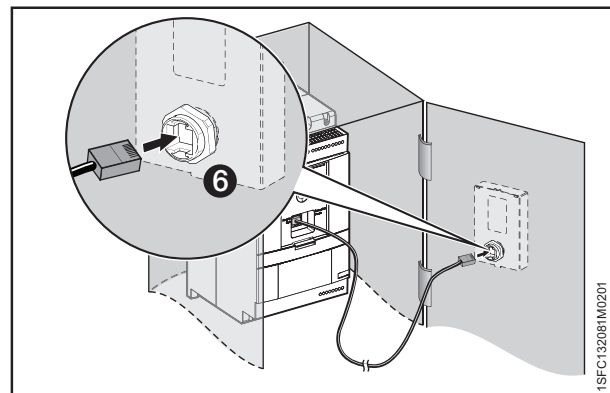

Figure 4.11
- Connect the other end of the network cable to the network port on the back of the movable HMI, see **6** in **Figure 4.11**.